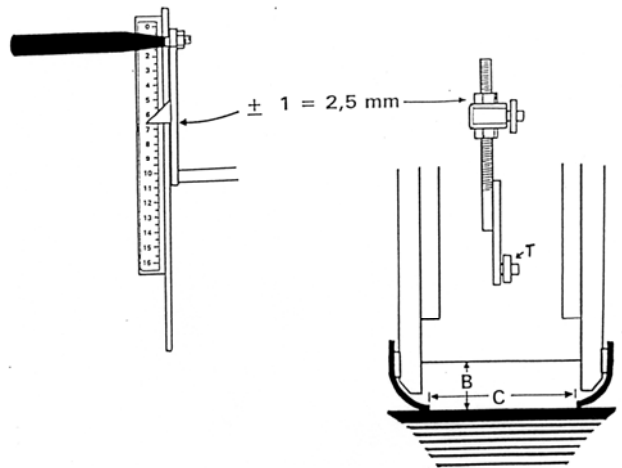

Fig. 19. Regulating rear door opening
4. Check the setting of the rear doors and whether the side rubbers are correctly adjusted (see fig. 19): ***B = 40 mm at scale setting 8 and C = 112 -> 115 mm between the side rubbers at the slide opening.*** When checking measurement B, we recommend that you use a piece of steel or wood with the dimensions of 40 mm height and 112-115 mm width (C). You must be able to slide this under the rear door, without moving the side rubbers or rear gate.
If the spreader continues to meter incorrectly after the above checks have been carried out, then it is possible to adjust the mechanism to match the scale reading with the amount actually metered in practise. The adjustment rods on each regulating slide can then be used to correct the error. One digit on the scale corresponds to 2,5 mm movement of the rear door, which means that everytime the nut on the adjusting rod is moved 1,5 turns, the rear door is lowered/raised by 1 step on the scale (Fig 19).